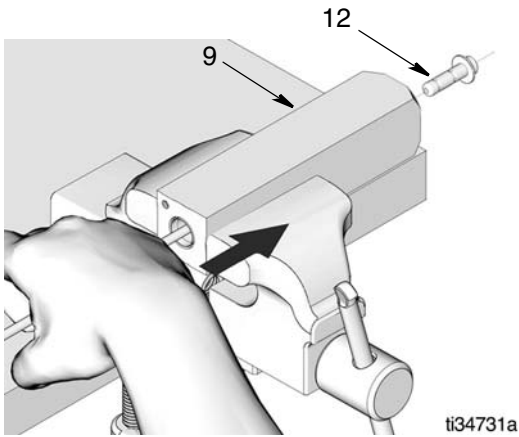

FIG. 7
12. Use a dowel or long rod with a flat end to push the plunger (GL-1XL models)/poppet (GL-1X models) (12) out of the injector body (9) as shown in FIG. 7.